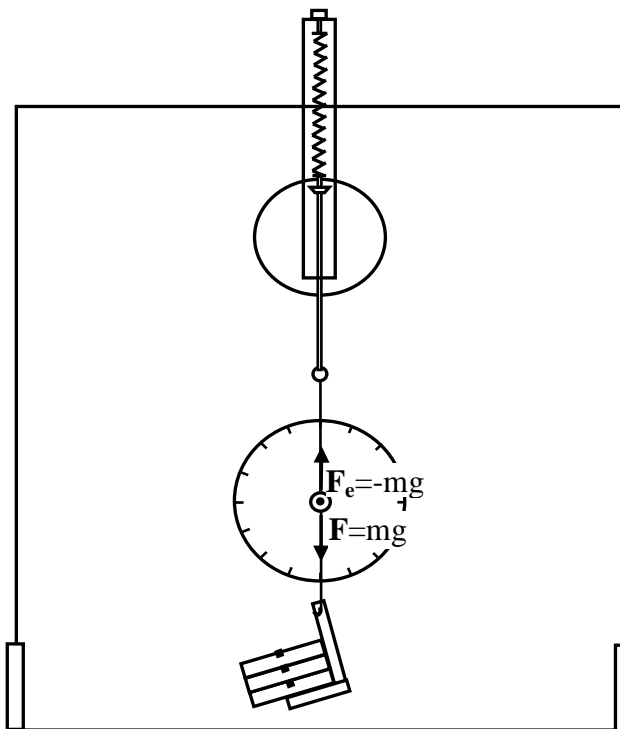

Figure 2.3: Equipment Setup
1. Set up the equipment as shown in Fig.2.3. The mass Hanger and mass provide a gravitational force  $\vec{F} = m\vec{g}$  downward. However, since the Force Ring is not accelerated, the downward force must be exactly balanced by an equal and opposite, or equilibrant force. This equilibrant force,  $\vec{F}_e$ , is of course provided by the Spring Balance.
1. What is the magnitude and direction of  $F$ , the gravitational force provided by the mass and Mass Hanger ( $\vec{F} = m \vec{g}$ ) using Fig. 2.3.
2. Use the Spring Balance and the Degree Plate to determine the magnitude and direction of  $\vec{F}_e$  using Fig. 2.3.